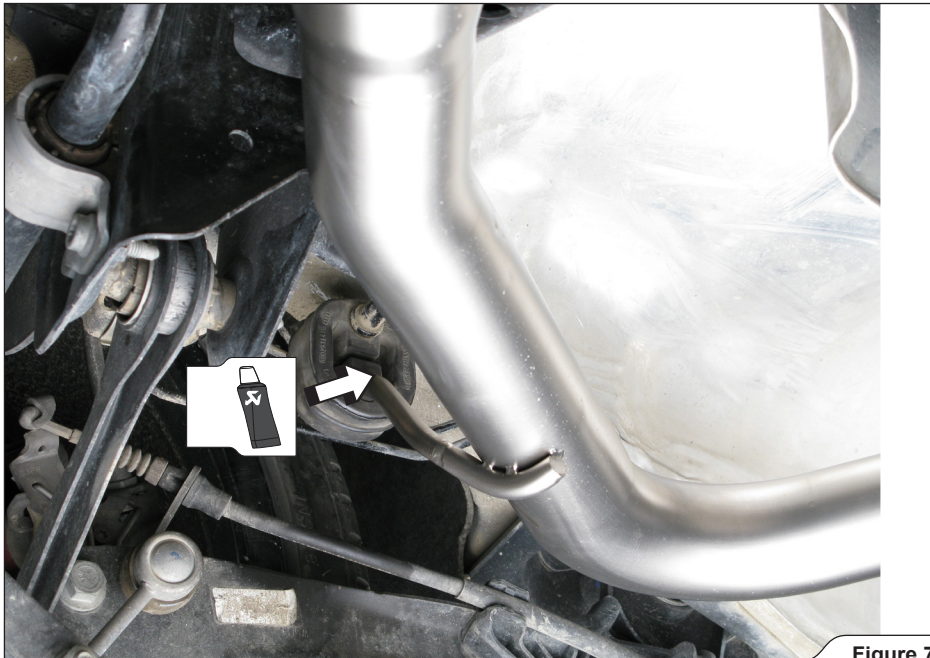

Figure 7
1. **For optional Link-Pipe only:** hang the Akrapovič Link-Pipe onto three stock rubber brackets and slide the original double clamp over the joint. Center the double clamp on the middle of the joint and tighten the nuts to a specified torque (**Figure 7, 8**).